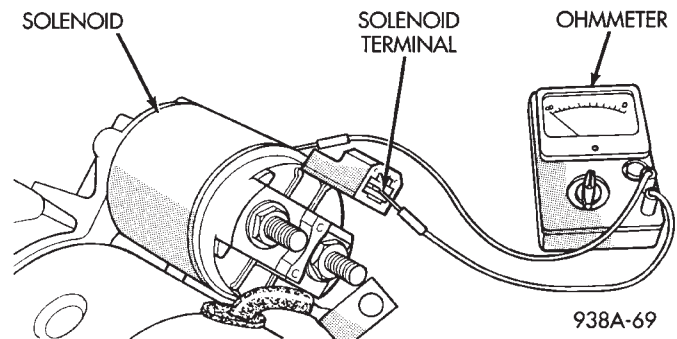

**Fig. 19 Continuity Test Between Solenoid Terminal and Solenoid Case —Melco**
(3) Check for continuity between solenoid terminal and solenoid housing (Fig. 19 or 20). Continuity should be detected. If continuity is detected, solenoid is good.